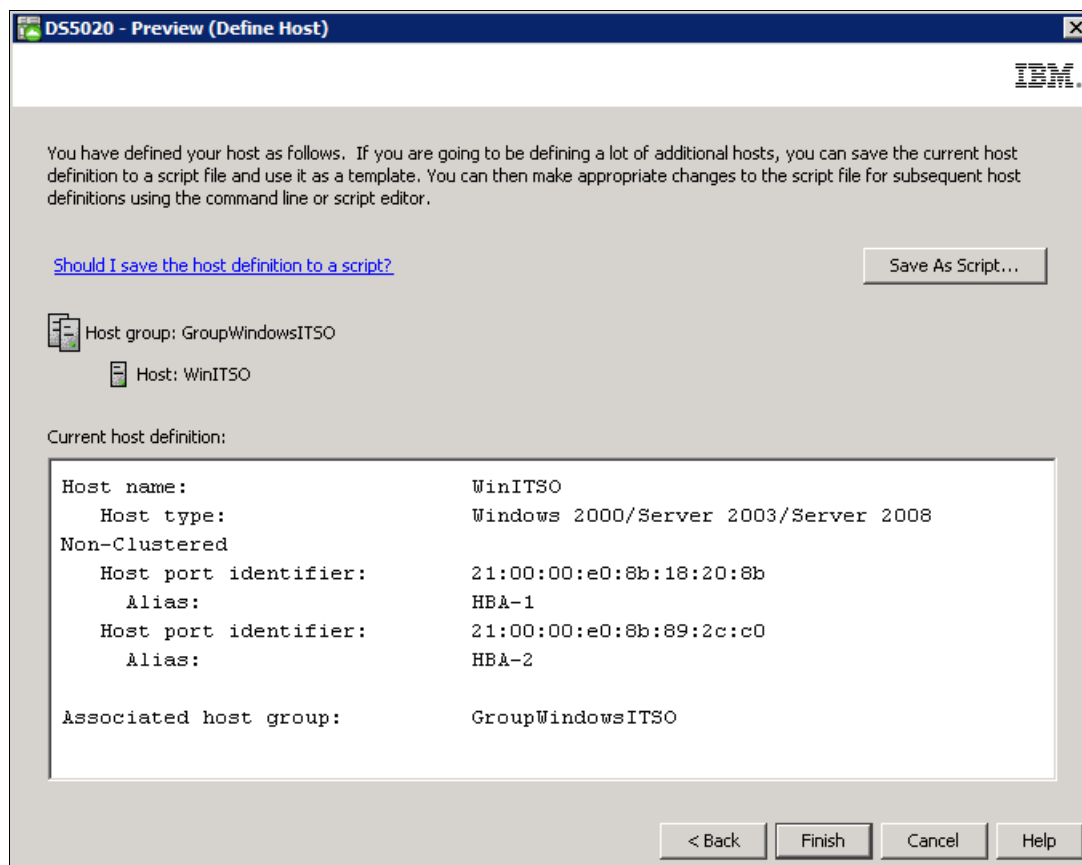

Figure 3-73 Define Host: Preview
9. Finally, you have the chance to preview the new host definition (Figure 3-73). If all the selections are correct, click **Finish** to define the new host.